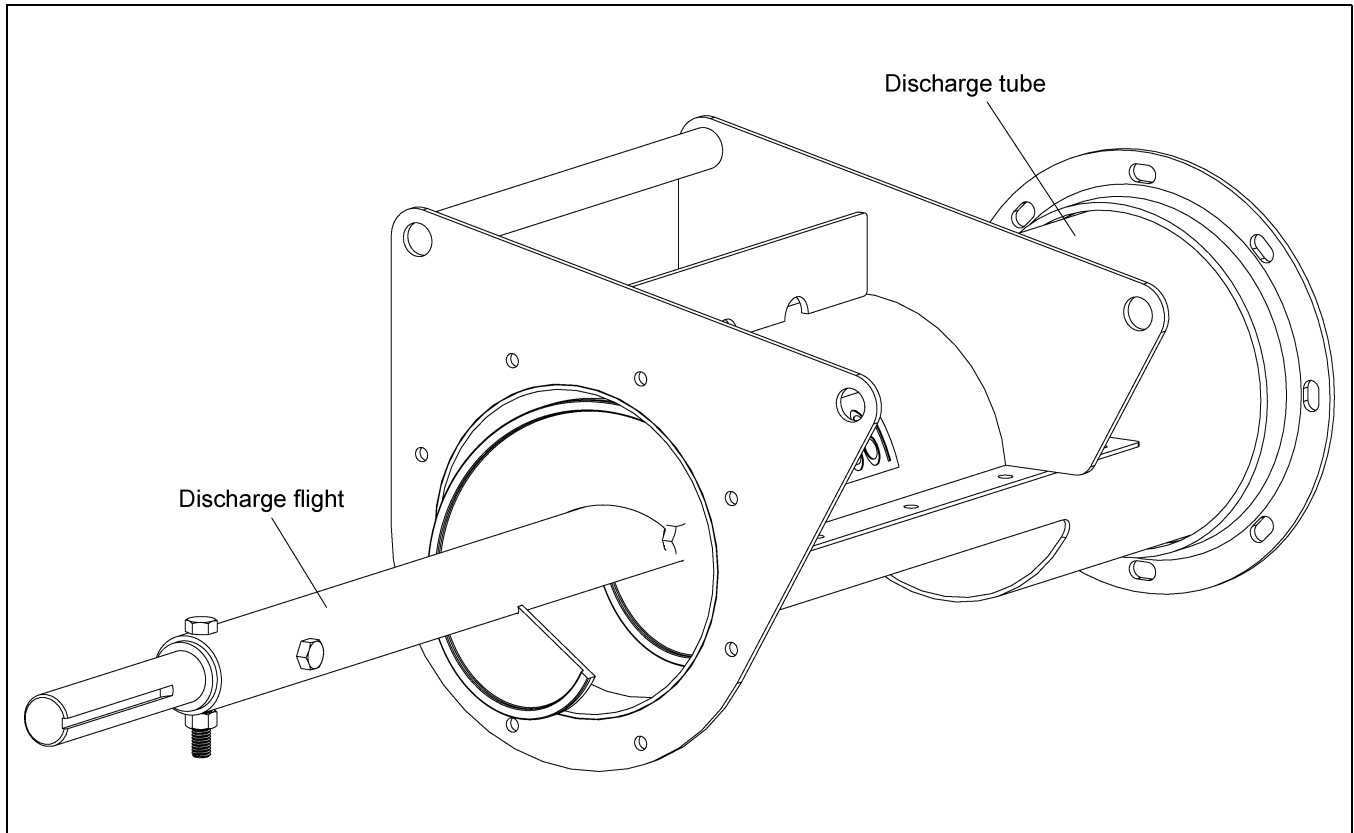

Figure 4B
1. Once the discharge tube has been bolted to the unload tube, slide the discharge flight into the tube and align the connecting shaft holes with the holes on the unload flight. (See Figure 4B.)